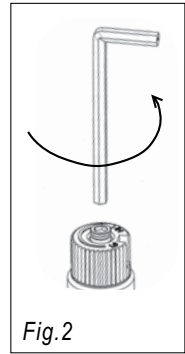

Fig.2
- 15) Insert the allen key into the hexagonal key-way of the screw (Fig. 2), rotate it counter-clockwise until it is free and extract it.